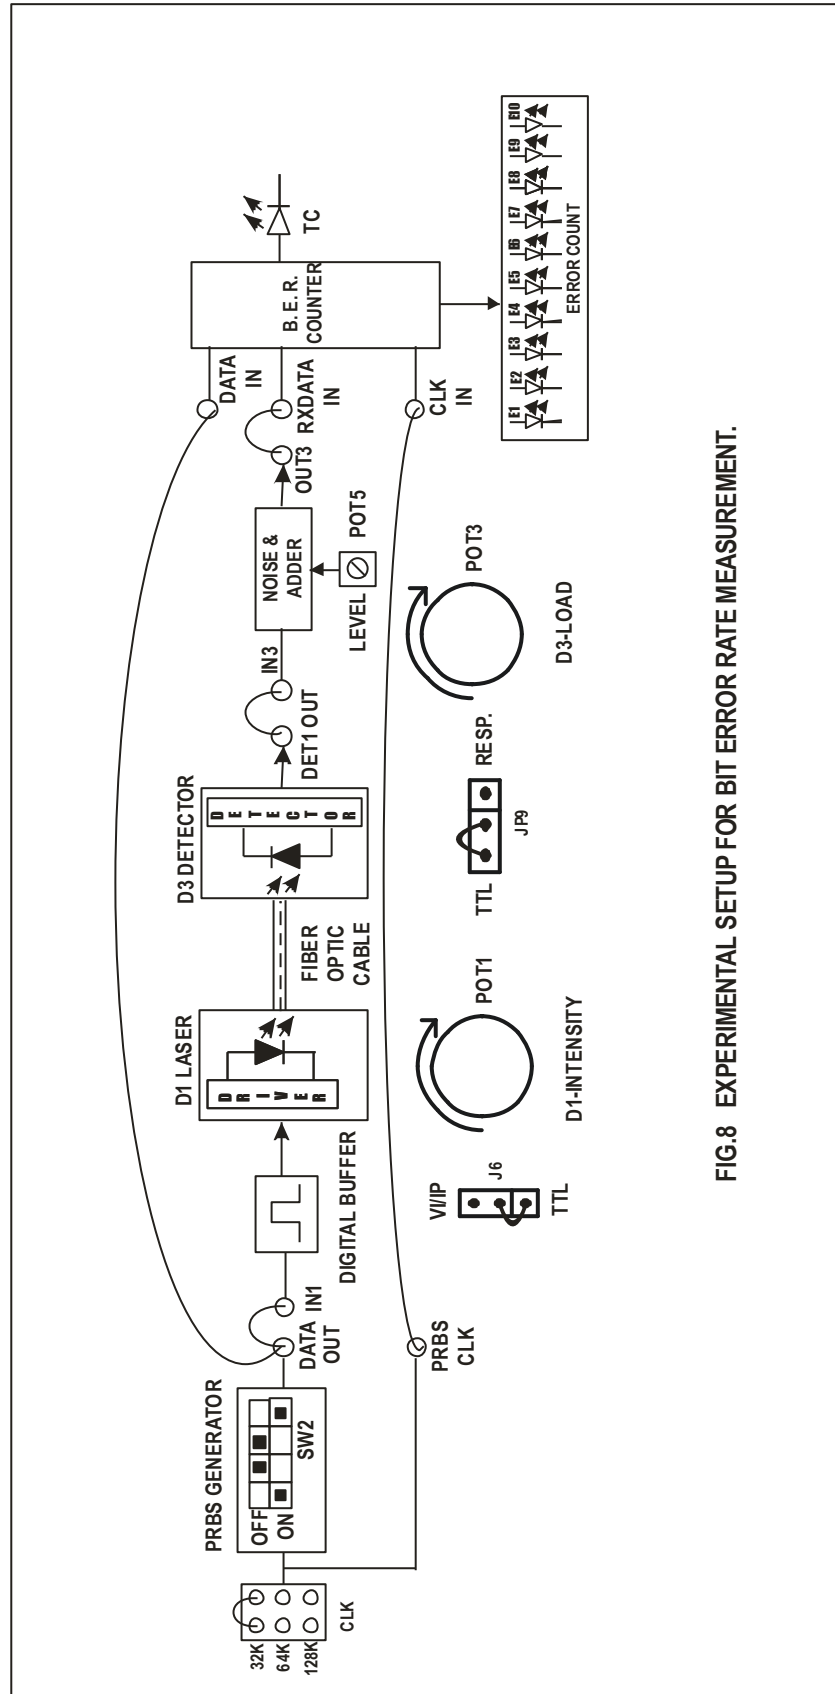

FIG.8 EXPERIMENTAL SETUP FOR BIT ERROR RATE MEASUREMENT.
- Make connections as shown in fig.8. Connect the power supply with proper polarity to FOL-M-GP Kit. While connecting this, ensure that the power supply is OFF.
- Keep switch SW2 as shown in fig 8 to generate PRBS signal.
- Keep the jumper setting as shown in fig 8.